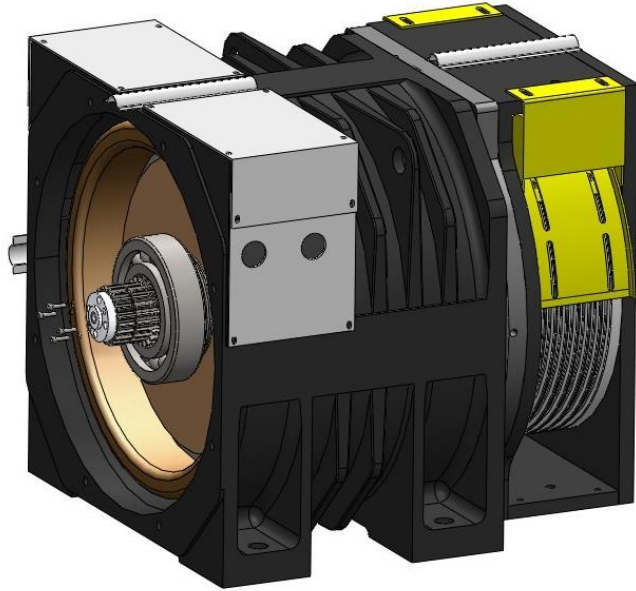

Figure 67: Encoder shaft removal
6. Make a mark for encoder shaft and spline, loosen 4 screws M5x16 with hex wrench (4mm), and take off shaft of encoder shaft. See Figure 67.